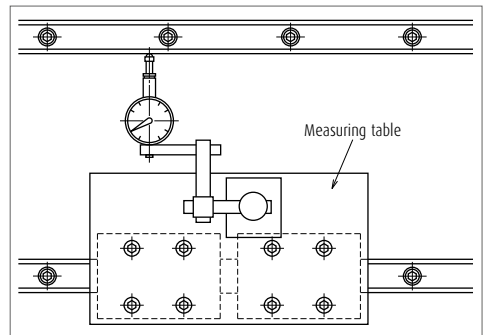

Fig. 15 Measuring parallelism
- [4] If there is no shoulder on the mounting surface of the machine base for the adjusting side rail: Secure a measuring table to the slides of the reference side rail (**Fig. 15**). Use this to adjust the parallelism of the adjusting side rail. Check parallelism of the adjusting side rail with a dial indicator from one end of the rail, tightening the bolts one by one.
- Parallelism between two rails can also be checked by the same method in **Fig. 15** when there is a shoulder on the surface where the adjusting side rail is installed.